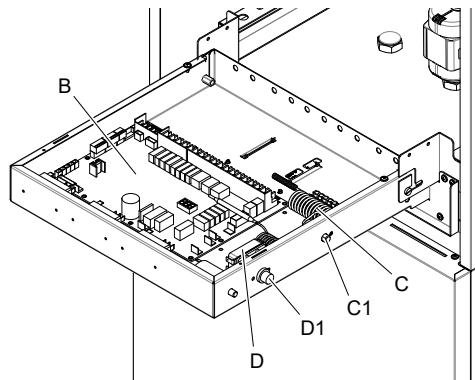

fig. 20 - internal view of the electric box
- B** Electronic hydronic board (fig. 20)
- C** Safety thermal cut-out for single phase electrical heater with manual reset button (part. C1 fig. 20)
- D** Safety thermal cut-out for three phase electrical heater with manual reset button (part. D1 fig. 20)